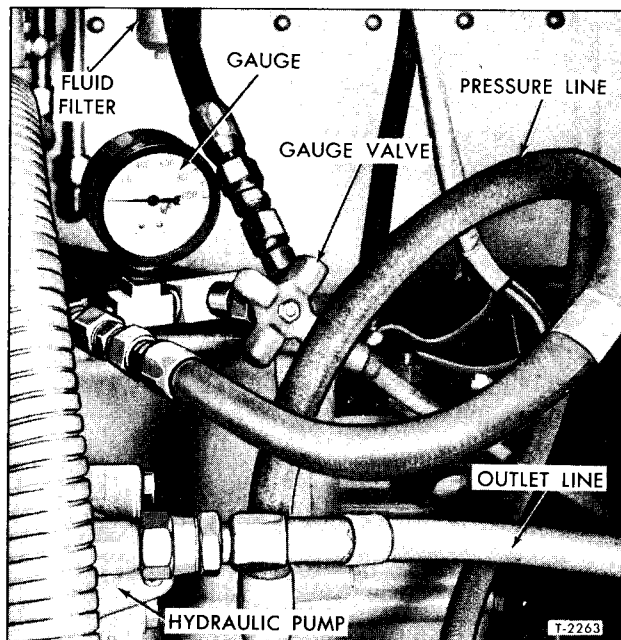

Figure 3—Checking Pump Hydraulic Pressure (Typical)
2. Connect 0 to 1000 psi pressure checking gauge (J-5631-1) (fig. 3) between the pump pressure line and power steering fluid filter. Leave valve in pressure gauge line open.